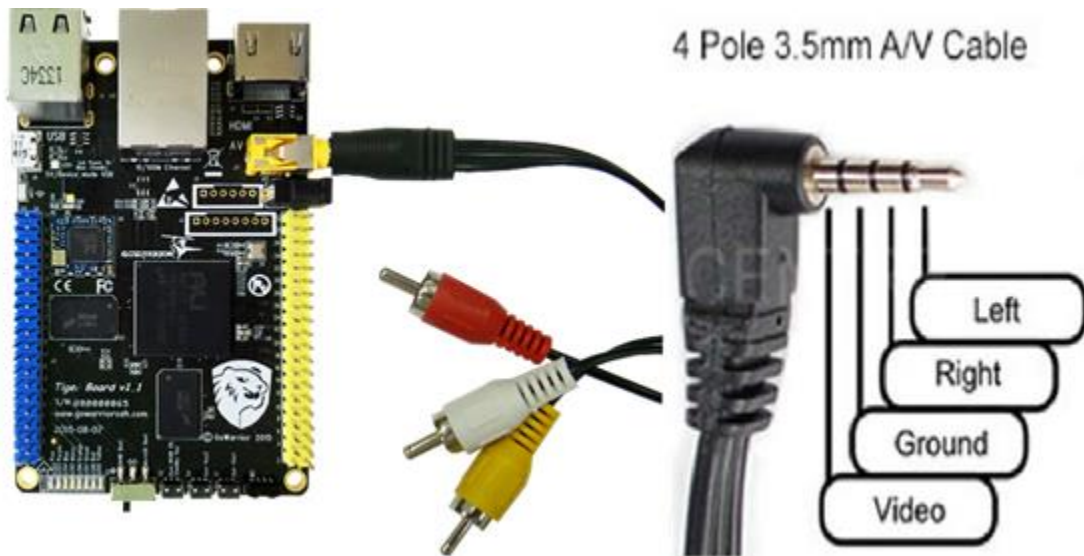

Figure 8. Connecting CVBS (RCA) Cable to the TV SET
2. Connect the CVBS (RCA) cable as shown in **Figure 8** to your CVBS TV SET.
Note: The 3.5mm jack to RCA cable defines as up figure 8.